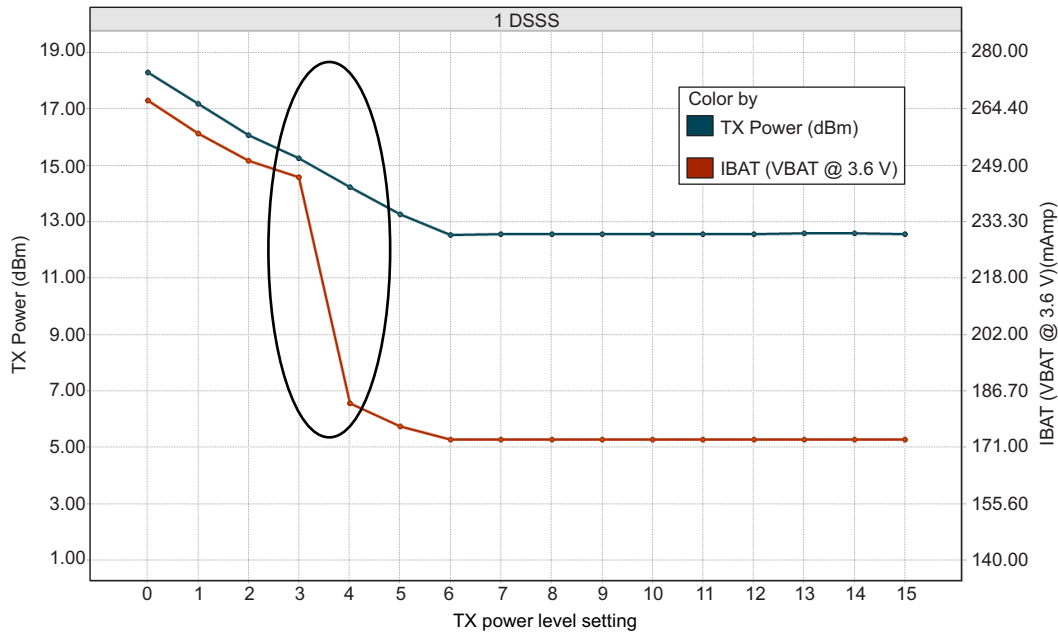
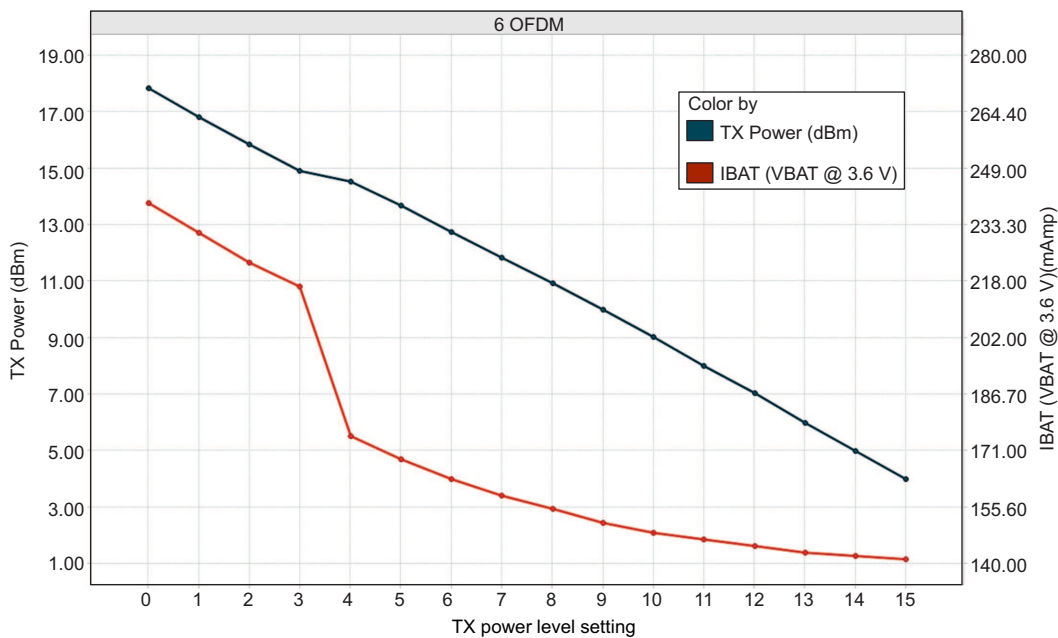
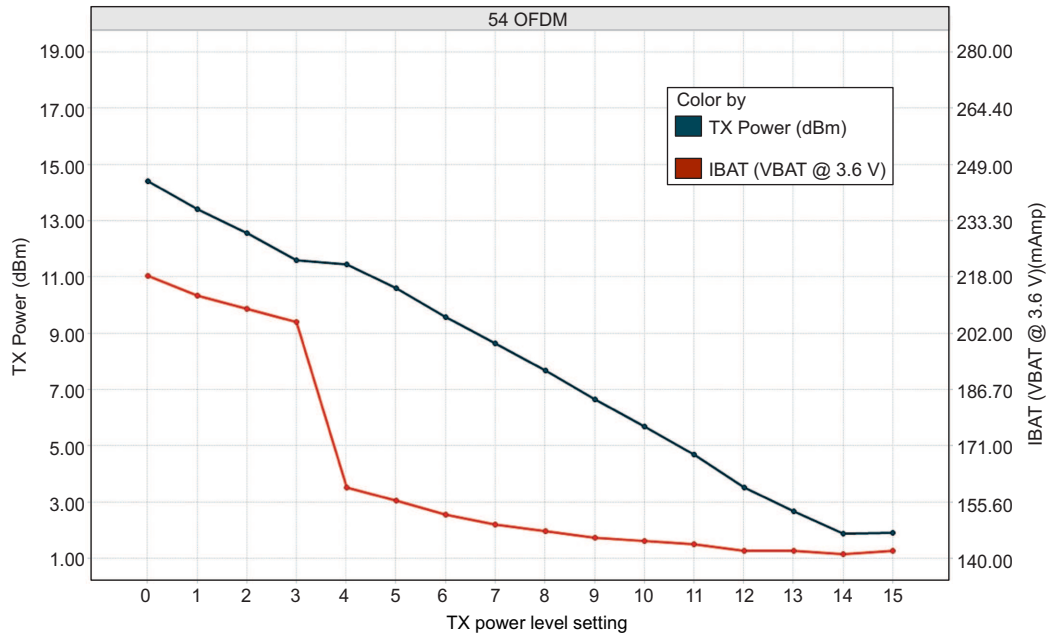

Figure 4-1. TX Power and IBAT vs TX Power Level Settings (1 DSSS)
Figure 4-2. TX Power and IBAT vs TX Power Level Settings (6 OFDM)
Figure 4-3. TX Power and IBAT vs TX Power Level Settings (54 OFDM)
- (1) TX power level = 0 implies maximum power (see Figure 4-1, Figure 4-2, and Figure 4-3). TX power level = 4 implies output power backed off approximately 4 dB.
- (2) The CC3220x system is a constant power-source system. The active current numbers scale based on the VBAT voltage supplied.
- (3) DTIM = 1
- (4) LPDS current does not include the external serial flash. The LPDS number of reported is with retention of 256KB of MCU SRAM. The CC3220x device can be configured to retain 0KB, 64KB, 128KB, 192KB, or 256KB of SRAM in LPDS. Each 64-KB block of MCU retained SRAM increases LPDS current by 4 μA .
- (5) The complete calibration can take up to 17 mJ of energy from the battery over a time of 24 ms. In default mode, calibration is performed sparingly, and typically occurs when re-enabling the NWP and when the temperature has changed by more than 20°C. There are two additional calibration modes that may be used to reduced or completely eliminate the calibration event. For further details, see CC3120, CC3220 SimpleLink™ Wi-Fi® and IoT Network Processor Programmer's Guide.
(1) TX power level = 0 implies maximum power (see Figure 4-1, Figure 4-2, and Figure 4-3). TX power level = 4 implies output power backed off approximately 4 dB.
(2) The CC3220x system is a constant power-source system. The active current numbers scale based on the VBAT voltage supplied.
(3) DTIM = 1
(4) LPDS current does not include the external serial flash. The LPDS number of reported is with retention of 256KB of MCU SRAM. The CC3220x device can be configured to retain 0KB, 64KB, 128KB, 192KB, or 256KB of SRAM in LPDS. Each 64-KB block of MCU retained SRAM increases LPDS current by 4 μA .
(5) The complete calibration can take up to 17 mJ of energy from the battery over a period of 24 ms. Calibration is performed sparingly, typically when coming out of HIBERNATE and only if temperature has changed by more than 20°C. The calibration event can be controlled by a configuration file in the serial flash..
Figure 4-1, Figure 4-2, and Figure 4-3 show TX Power and IBAT versus TX power level settings for the CC3220R and CC3220S devices at modulations of 1 DSSS, 6 OFDM, and 54 OFDM, respectively. For the CC3220SF device, the IBAT current has an increase of approximately 10 mA to 15 mA depending on the transmitted rate. The TX power level will remain the same.
In Figure 4-1, the area enclosed in the circle represents a significant reduction in current during transition from TX power level 3 to level 4. In the case of lower range requirements (14-dBm output power), TI recommends using TX power level 4 to reduce the current.